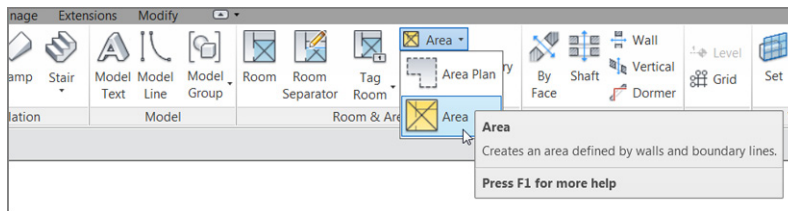

FIGURE 15.27: The Area button
8. On the Room & Area panel, click the Area button, as shown in Figure 15.27.